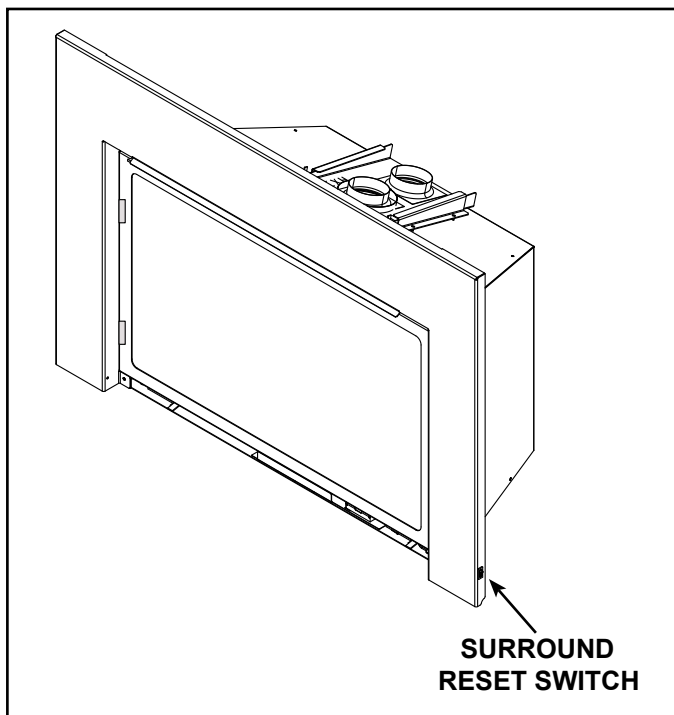

Figure 3.10 Surround Reset Switch and USB-C Battery Backup Port
- Toggle the appliance reset switch to the off position . See Figure 3.10 for reset switch location.
- Wait five (5) minutes to allow possible accumulated gas to clear.